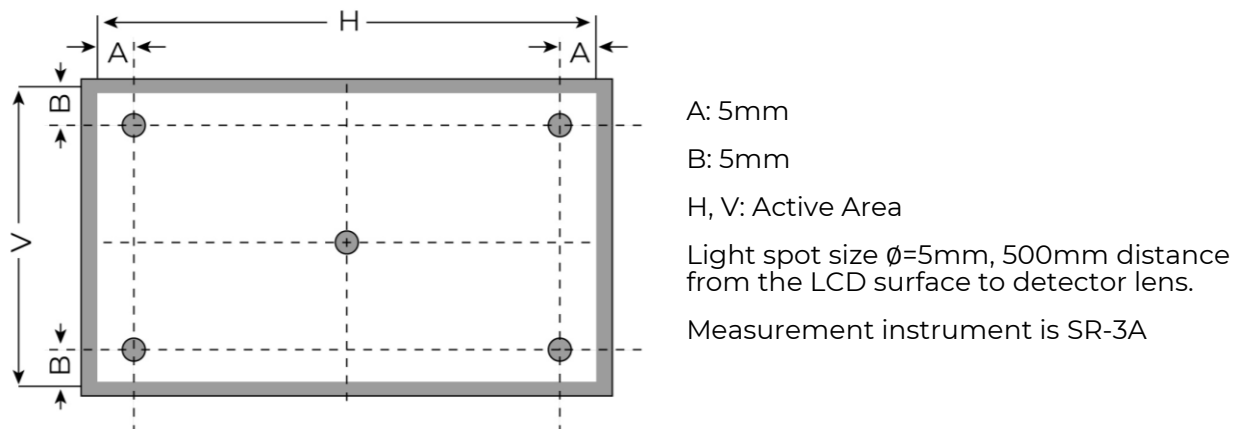

Figure 2. Measuring method for Contrast ratio, surface luminance, Luminance uniformity, CIE (x, y) chromaticity
Note 1. Contrast Ratio (CR) is defined mathematically as below, for more information see Figure 2.
Note 2. Surface luminance is the LCD surface from the surface with all pixels displaying white at 100% backlight. For more information see Figure 2.
Note 3. The uniformity in surface luminance δ WHITE is determined by measuring luminance at each test position 1 through 5, and then dividing the minimum luminance of 5 points luminance by maximum luminance of 5 points luminance. For more information see Figure 2.